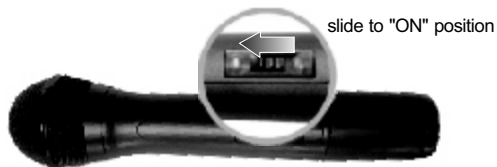

Fig. 6
- After putting the battery cover back to the housing, slide the switch to "ON" position as shown in Fig.6.